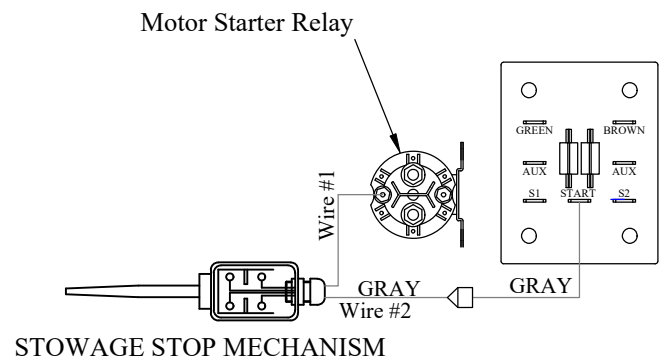

Figure 27: Stowage Stop mechanism
6. **Connect** wire #1 to the Motor Starter Solenoid and wire #2 to the grey wire removed on step 5 (Figure 27).